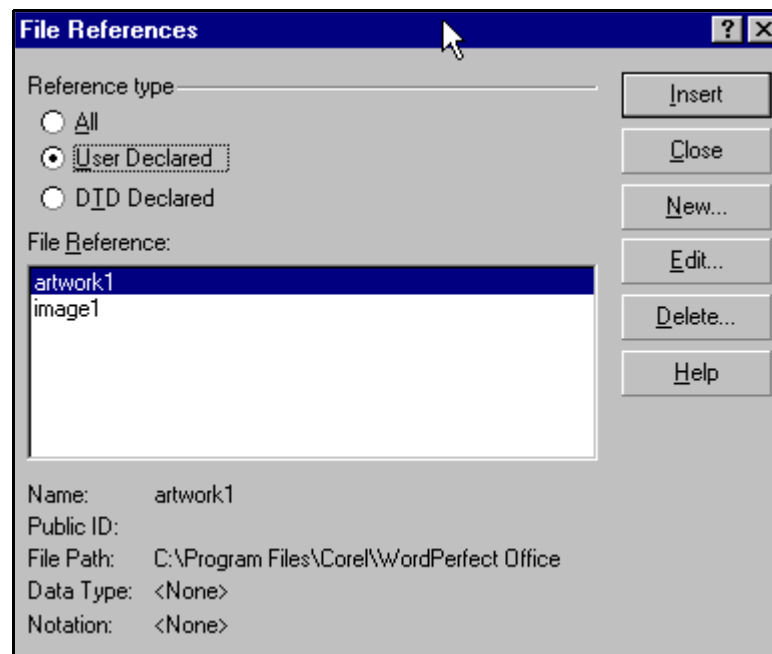

Figure 4-13 File References Window
- 3a. From the **Insert** menu select **File References**. The **File References** window opens (see Figure 4-13).
- 3h. Repeat these steps for each entry listed in the **File Reference** area (refer back to Figure 4-13).